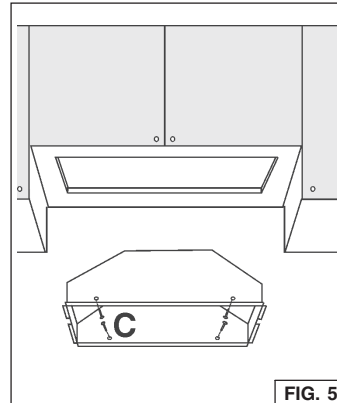
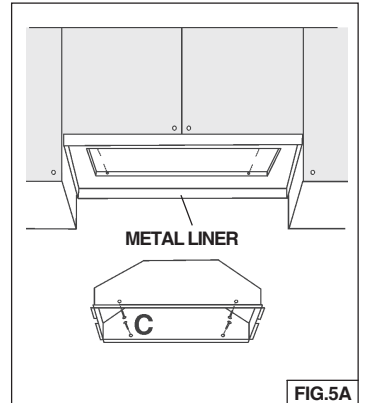

FIG. 5
FIG. 5A
4. **NOTE:** For installations where the Power Pack is less than 30" above cook top, it is recommended that the Power Pack be mounted into a metal liner or non-combustible material. This will allow easier cleaning and provide protection to the cabinetry (Fig.5A).
6. Insert the hood in the cabinet (Fig. 5) or metal liner (Fig. 5A) and secure with the (4) "C" mounting sheet metal screws. (Fig. 5 - wood bottom installation; recommended thickness 1/2"-3/4").